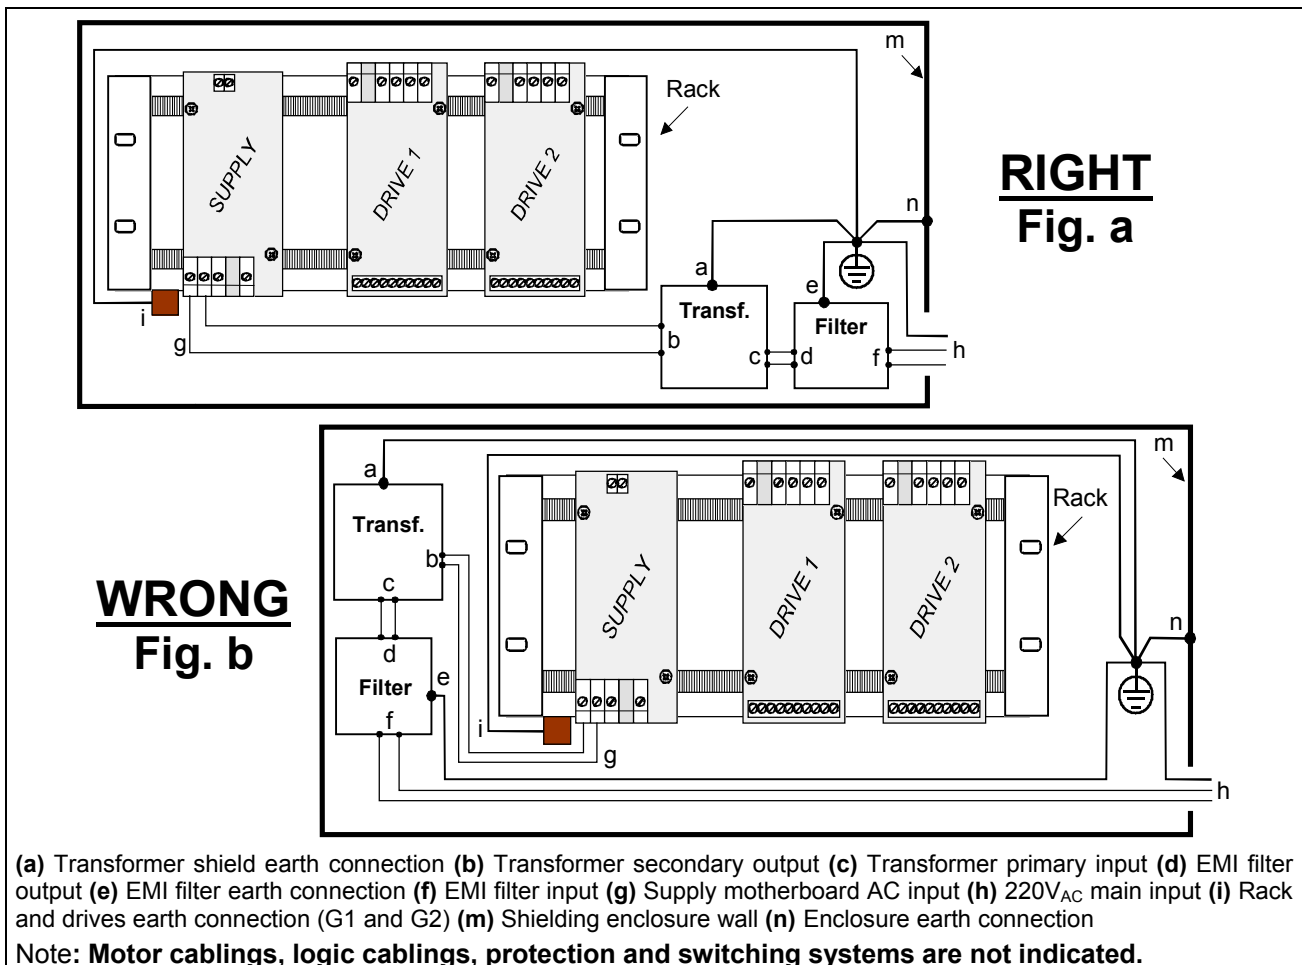

Fig. 17 - Example of filter, transformer and related cabling positioning inside the enclosure
Other filter types can be used provided the attenuation characteristics are the same. Location of filter and of their related cabling are very important: take care that no electromagnetic coupling exists between circuits up the filter and circuits down the filter; if such coupling is present, the effectiveness of filter could be strongly reduced (see also fig. 17).
- 12.3.2- Figures 16 and 17 represent examples of right and wrong way to do motor, drive and supply connections from the point of view of electromagnetic interference. In particular, fig. 17 stress the point that the position, inside the enclosure of filter, transformer and related cabling are very important. In fig. 17-b is represented a situation in which the filter is located in a part of the enclosure far from the 220 V_{AC} input point: the long cabling existing between this input and filter input "collect" electromagnetic field present inside the enclosure and could be source of conducted interference, on which the filter is ineffective. In fig. 17-a the same cabling is very short and this problem is avoided.